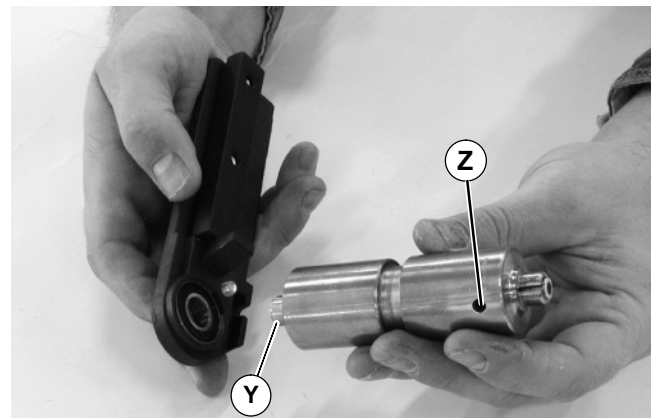
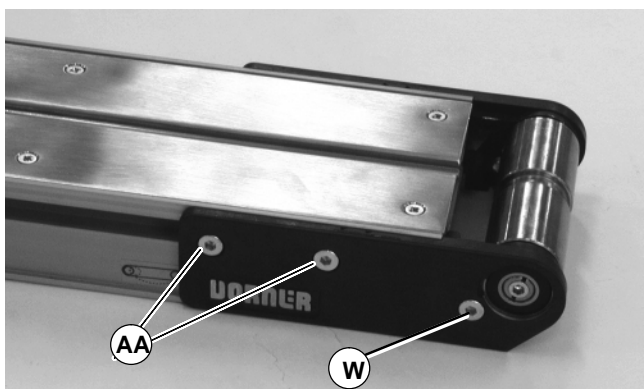
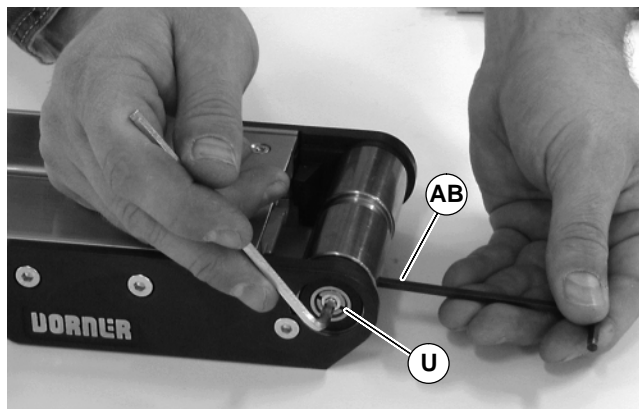

Figure 18
Figure 20
Figure 21
6. With bearing installed in head plate, press bearing onto shaft (Y of Figure 18) of pulley. Repeat for both sides of pulley.
8. On both sides of pulley, use a 4mm hex-key wrench to tighten pulley taper screw (U of Figure 21) to 75 in-lbs (8.5 Nm). Steady pulley with second hex-key wrench (AB) inserted into pulley hole (Z of Figure 18).
9. On head plate opposite of pulley hole (Z of Figure 18), install screw (W of Figure 20). Tighten to 60 in-lbs (7Nm).